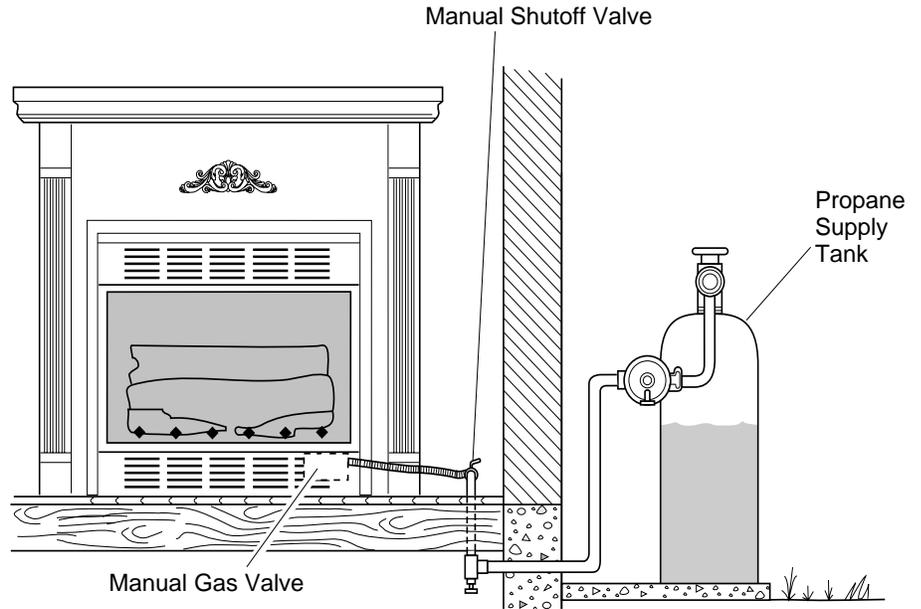

Figure 35 - Checking Gas Joints
3. Check all joints from propane supply tank to manual shutoff valve (see Figure 35). Apply mixture of liquid soap and water to gas joints. Bubbles forming show a leak.
4. Check all joints from manual shutoff valve to thermostat gas valve (see Figure 35). Apply mixture of liquid soap and water to gas joints. Bubbles forming show a leak.